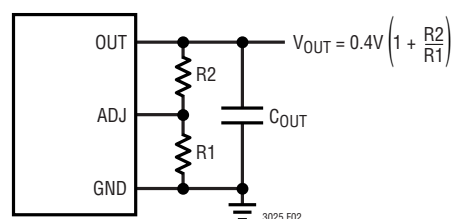

Figure 2. Programming the LTC3025
**ADJ (Pin 5):** Adjust Input. This is the input to the error amplifier. The ADJ pin reference voltage is  $0.4\text{V}$  referenced to ground. The output voltage range is  $0.4\text{V}$  to  $3.6\text{V}$  and is typically set by connecting ADJ to a resistor divider from OUT to GND. See Figure 2.
The output voltage is set by the ratio of two external resistors as shown in Figure 2. The device servos the output to maintain the ADJ pin voltage at 0.4V (referenced to ground). Thus the current in R1 is equal to  $0.4\text{V}/R1$ . For good transient response, stability, and accuracy, the current in R1 should be at least 8 $\mu\text{A}$ , thus the value of R1 should be no greater than 50k. The current in R2 is the current in R1 plus the ADJ pin bias current. Since the ADJ pin bias current is typically <10nA, it can be ignored in the output voltage calculation. The output voltage can be calculated using the formula in Figure 2. Note that in shutdown the output is turned off and the divider current will be zero once  $C_{OUT}$  is discharged.